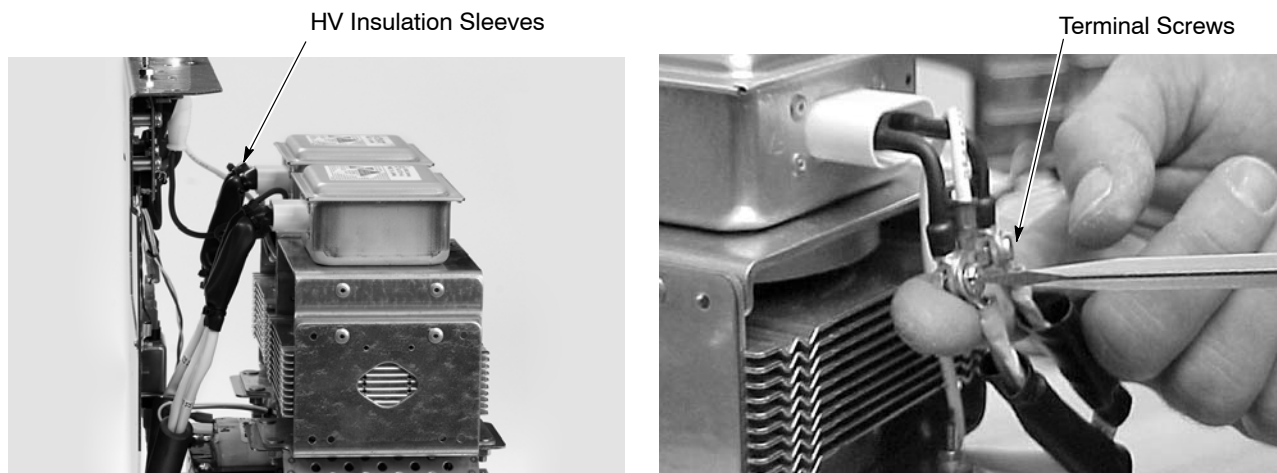

Figure 6-18 Magnetron Removal
2. See Figure 6-18. Cut the four ties securing the black HV insulation sleeves to the HV cables. Slide the sleeves down to expose the two ring-tongue terminal connections.
2. See Figure 6-18. Cut the four ties securing the black HV insulation sleeves to the HV cables at the magnetron. Slide the sleeves down to expose the ring-tongue terminal connections.
13. See Figure 6-18. Use the screws removed in step 3 to connect the X2 secondary cable to the magnetron **F** terminal pigtail. Connect the X1 secondary cable and the 20 AWG HV cable with ferrite to the **FA** terminal pigtail.